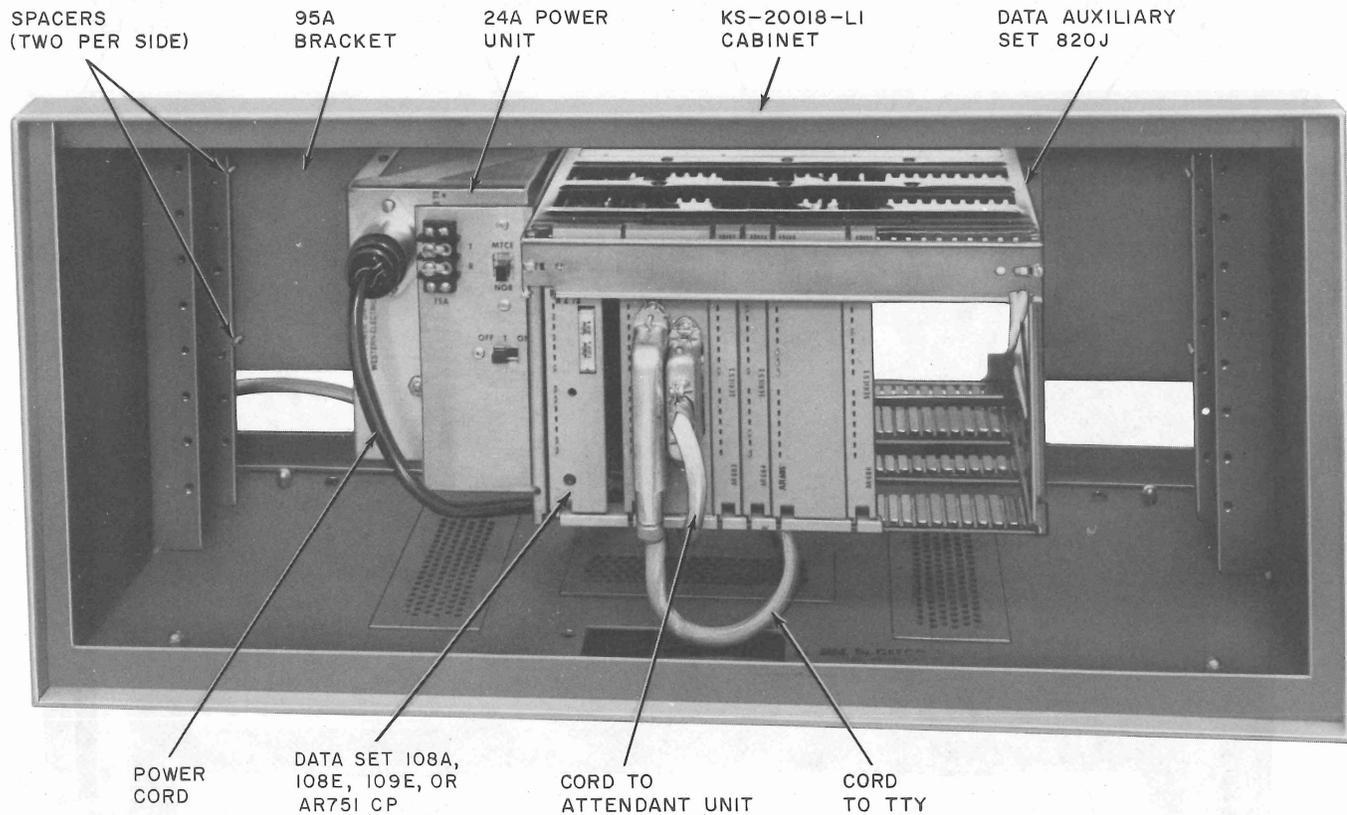
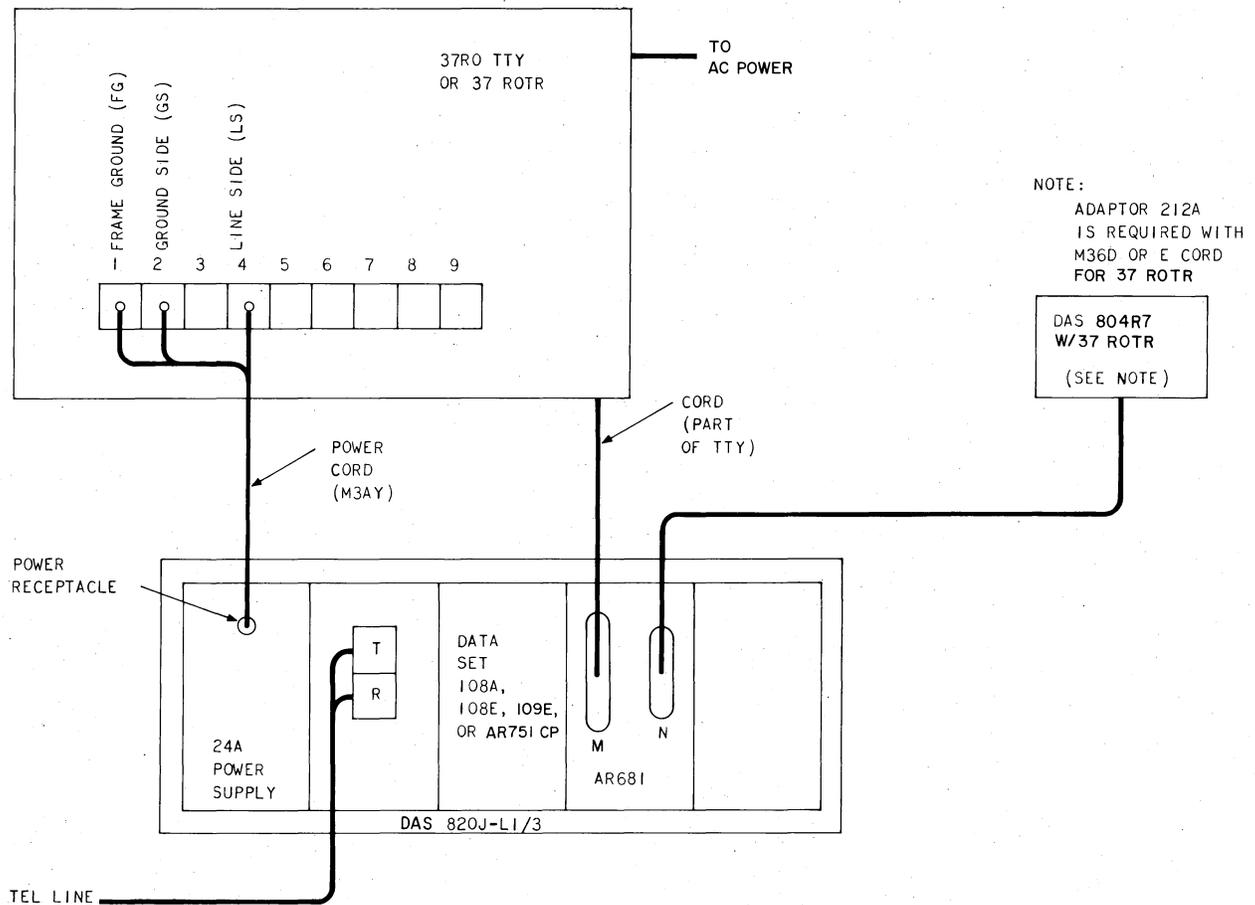

Fig. 7—DAS 820J-Type Mounted in a KS-20018 Cabinet Using a 95A Bracket
Fig. 10—37 RO TTY and 37 ROTR—Interconnection of Station Components
2.10 Installation of a 35 ROTR TTY shall be made in accordance with the section entitled 35 Receive Only Typing Reperforator (ROTR) Sets—Installation (574-203-200). Due to space limitations, the DAS 820J-L1/2 is housed in a KS-20018-L1, -L2, -L3, or -L4 cabinet, using a 95A bracket (Fig. 7). The interconnection of station components for 35 ROTR stations is shown in Fig. 2. Check that all plugs and connectors are installed as shown in Fig. 2 and that the line wire is correctly connected to the T and R terminals. The spacers provided with DAS 820J will be required in order to mount the controller.
2.12 Installation of a 37 RO TTY station shall be made in accordance with the section entitled 37 Receive Only Page Printer Set—Installation (574-YYY-ZZZ). The interconnection of station components for a 37 RO TTY is shown in Fig. 10. Check that all plugs and connectors are installed as indicated by the appropriate figure and that the line is connected to the T and R terminals.
KS-20018-L1, -L2, -L3, or -L4 cabinet, using a 95A bracket as shown in Fig. 7. The interconnection of station components for 37 RO TR stations is shown in Fig. 10. Check that all plugs and connectors are installed as indicated by the previously